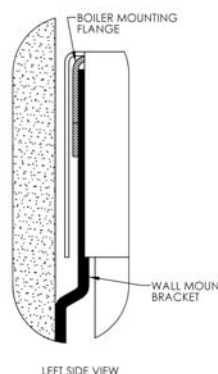

Figure 2.1: Optional Wall Mounting Bracket for PF-50, PF-80, PF-110 and PF-140 Boilers
- c. The mounting bracket has (4) holes on 16" centers as shown in Figure 2.1. This is intended to give installers the ability to mount the bracket on two wall studs spaced at this interval. If existing wall studs are spaced differently or if the desired location is not in line with the wall studs, additional support is required.